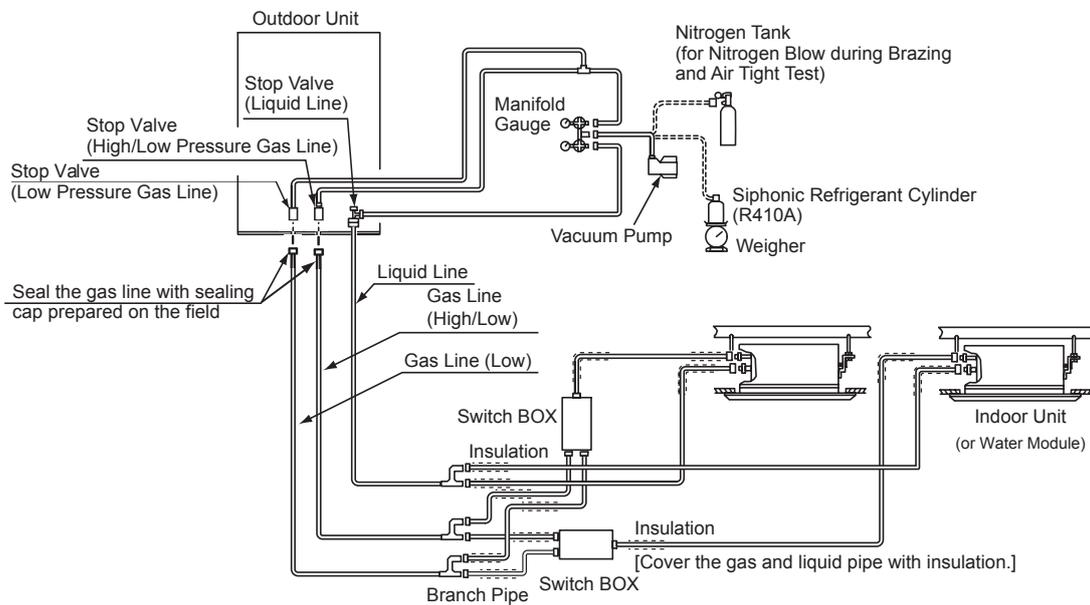

Fig. 7.1 Air-Tight Test
- The gas valve must be isolated and protected, and direct pressure on gas valve is absolutely forbidden (see Fig. 7.1)